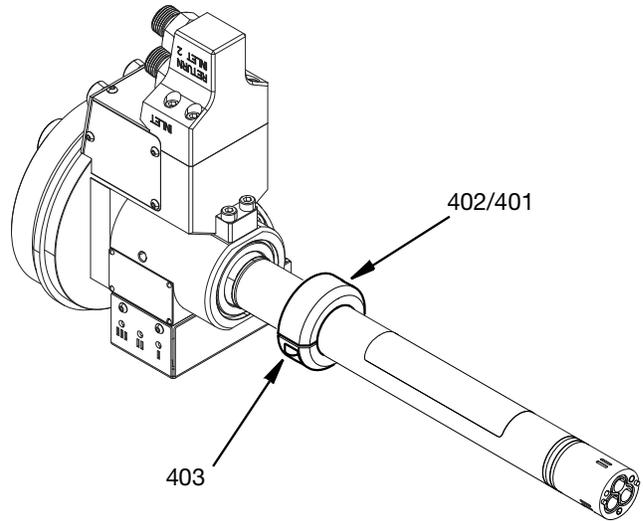

FIG. 19
8. With the adapter removed from the central body, loosen the two M5 screws (403) and remove the lock ring assembly (401) with washer (402). See FIG. 19.